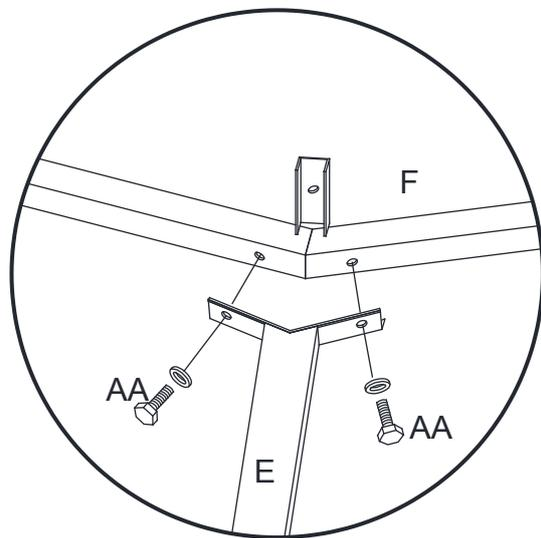

Fig.11
6. Attach the Top Bar (E) to the Top Connector (D) with Bolt (CC). Attach the Top Bar (E) to the Roof Ring (F) with Bolt (AA), see Fig.10-Fig.11.